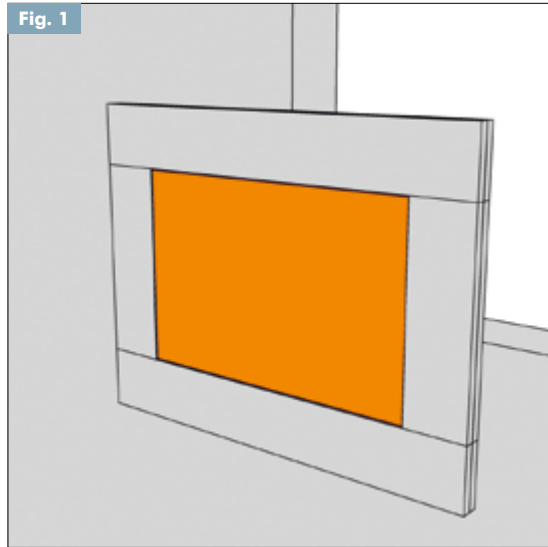

Fig. 1:
- If the thickness of the flexible wall in the area of the through penetration firestop system is less than the required minimum seal thickness, then all around the opening, either an enclosing lining (see Fig. 2) or a board frame (see Fig. 1) of non-flammable drywall or silicate or calcium silicate boards (class A2-s1, d0 or A1 in accordance with EN 13501-1) must be provided.